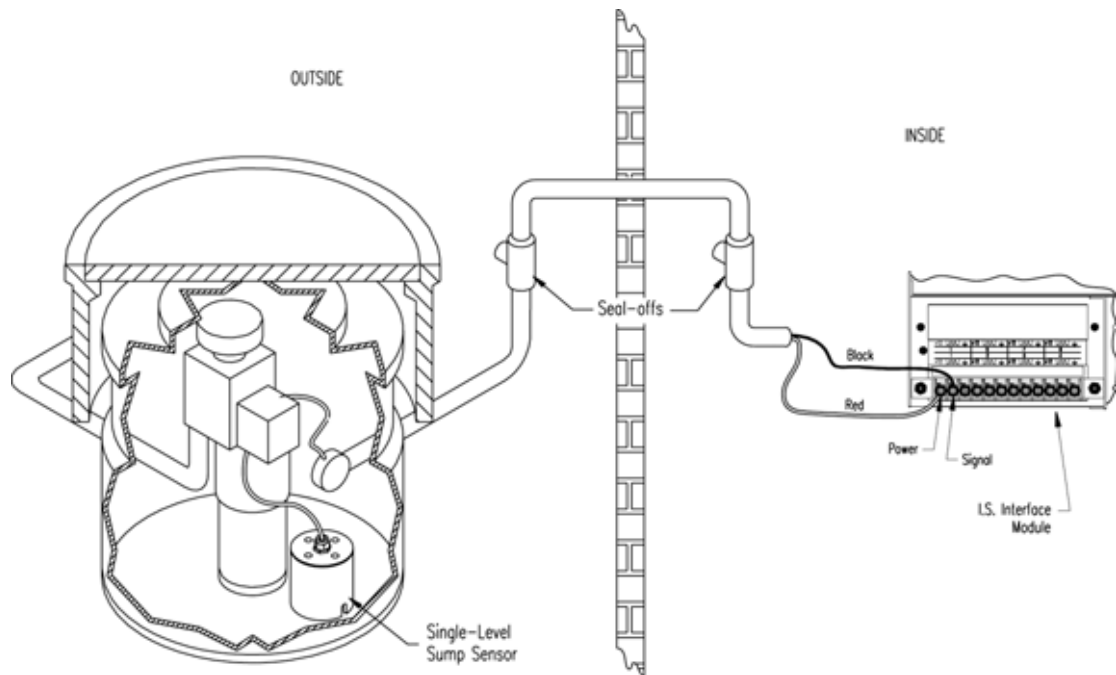

Figure 21: Single-Level Sump Sensor Installation
- Review Figure 21 on page 61.